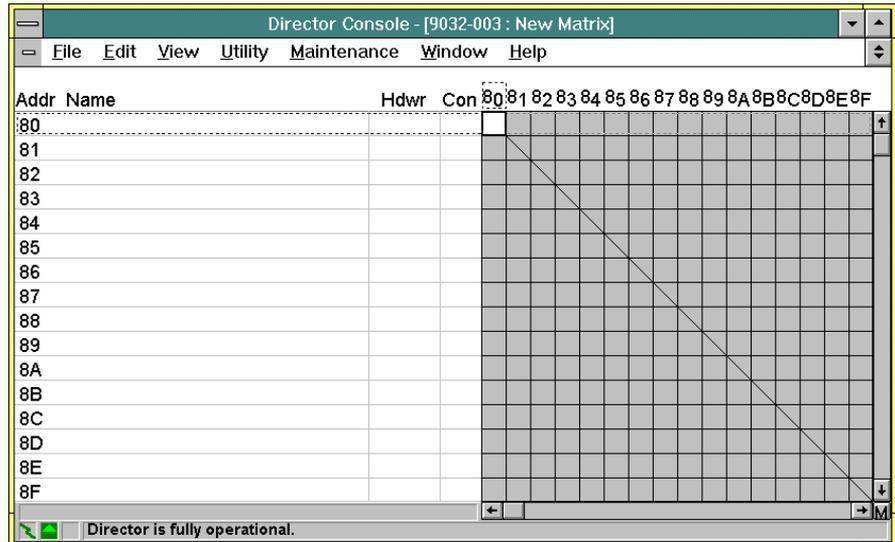

Figure 137. *Matrix* Window (No Attributes Set)
3. Select the Director for which the new configuration matrix is to be created (**9032-003** in this example) and click the *OK* button. The *New Matrix* window appears (Figure 137).